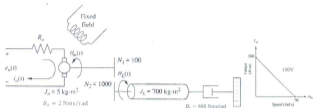

Figure 5: A DC motor and load
5. a) Consider the following schematic diagram of the industrial robotics system as in Figure 5. The system is to be applied in a manufacturing and control system process activity as a means of improving production efficiency and performance. Suggest the type of sensors FIVE (5) desirable features of sensors to be implemented in such applications.